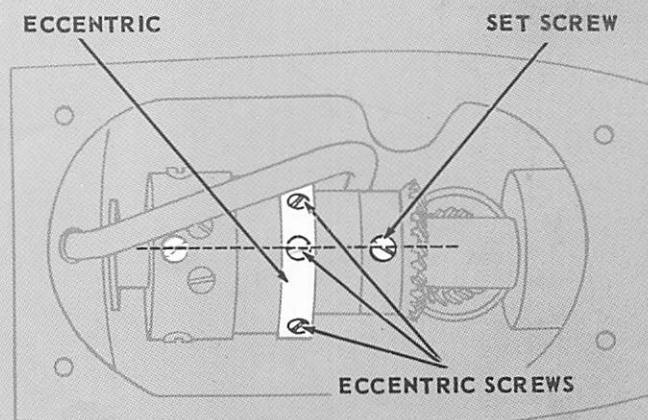

Fig. 47. Setting the Feed Lifting Eccentric
Position of feed lifting eccentric, Fig. 47, determines shape of elliptical path taken by feed dog. Thus eccentric determines distance feed dog will rise and fall, and point where feed dog will contact and drop away from material.
Loosen three lifting eccentric screws shown in Fig. 47.
Rotate lifting eccentric, Fig. 47, until connecting rod is at its lowest point and feed dog begins to rise.
At this point, center screws on feed eccentric, lifting eccentric, and bevel gear should be in line, as shown in Fig. 47.
Eliminate excessive backlash in bevel gears shown in Fig. 47, by loosening horizontal bevel gear set screw and moving gear toward or away from upright bevel gear.
**CAUTION:** Bevel gears shown in Fig. 47 have been lapped together at the factory and must be kept in mesh at all times.